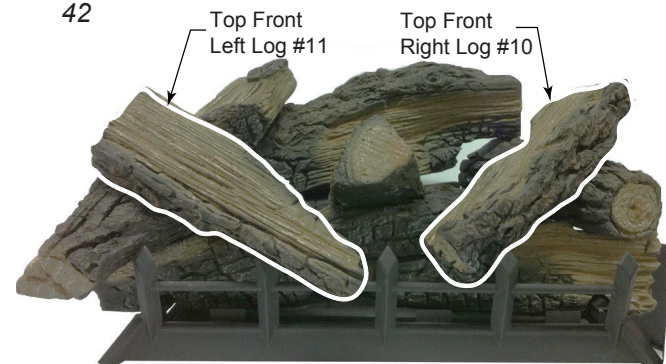

Figure 42
10. Place top front right log (#10) onto mid right log (#6) by placing notch on bottom of log onto locating block on log #6. Rest bottom end of log onto grate bar. *Figure 42*
11. Place top front left log (#11) onto mid left log (#8) by placing notch on bottom of log onto locating block on log #8. Rest bottom end of log onto grate bar. *Figure 42*